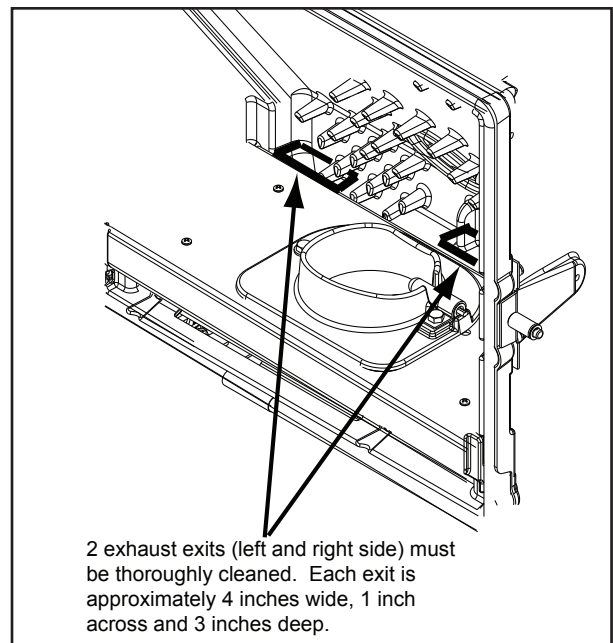

Figure 17.4
4. Use the crevice tool to finish cleaning the heat exchanger fins. It is critical that the 2 exhaust exits at the back of the firebox floor (left and right) be thoroughly cleaned. **Figure 17.4**. There are several ways this can done.